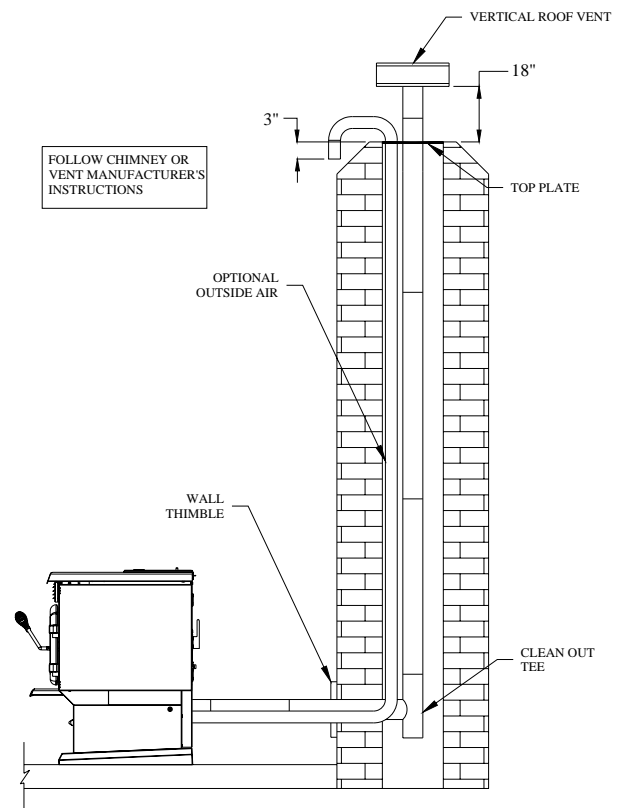

Figure 20
4. Install the tee on the bottom of the vertical pipe system and lower it down the chimney until the center branch of the tee is level with the center of the hole in the masonry, as shown in Figure 20.